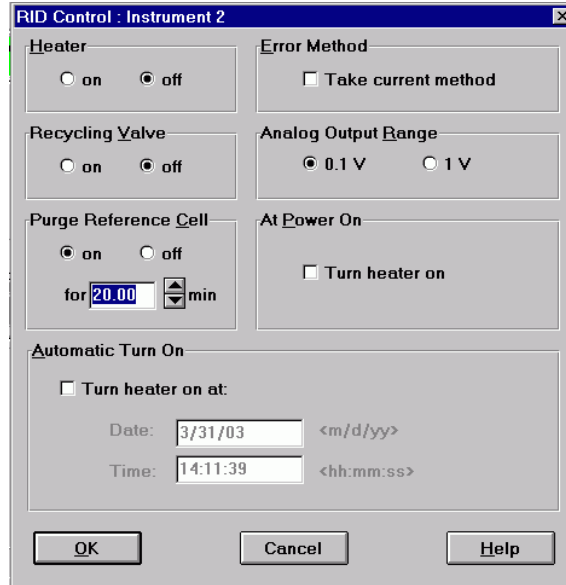

Figure 25 RID Check Out Sample Control
- 4 Turn the heater **ON** and purge the detector reference cell for 20 minutes as shown in Figure 25 on page 65: